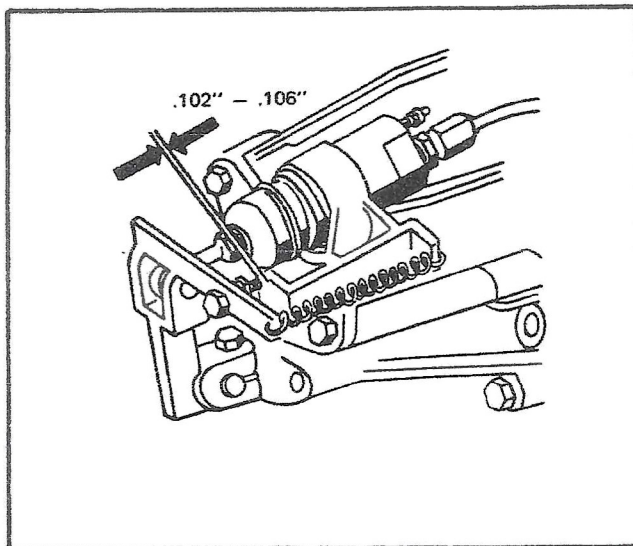

Fig. 16 - Article 88
4. Slacken the lock nut and adjust the screw until a clearance of .102"-.106" is obtained - Refer to Fig. 16. Tighten the lock nut.